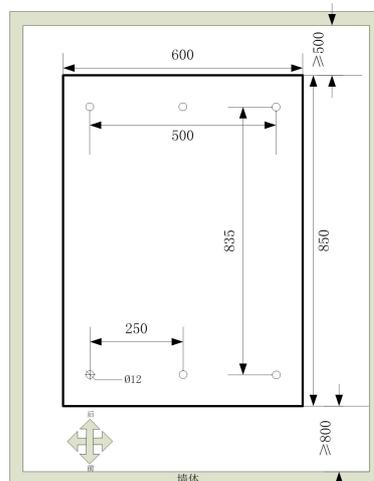

Fig. 3-4 Hole size of 120 kVA
Step 1: Determine the installation position and mark the positioning on the installation surface according to the hole location size diagram. The size diagram of 60 kVA UPS is same as the diagram of 120 kVA UPS, take 120 kVA UPS as an example shown in Fig. 3-4.